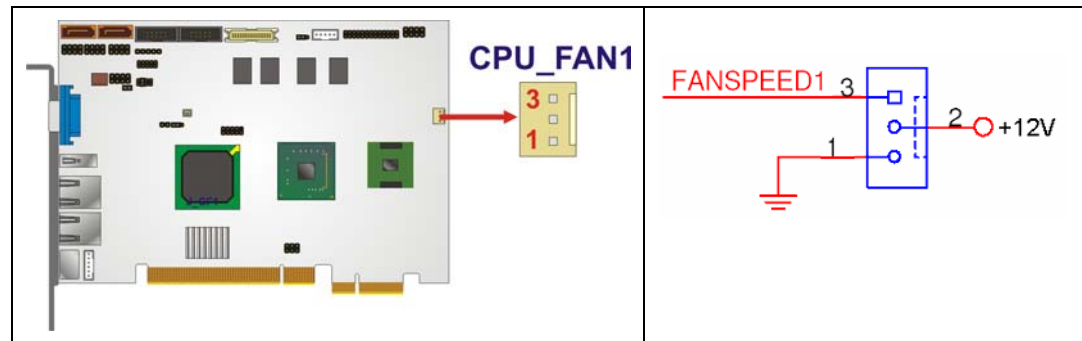

Figure 4-8: +12V Fan Connector Location
- CN Location:** See **Figure 4-8**